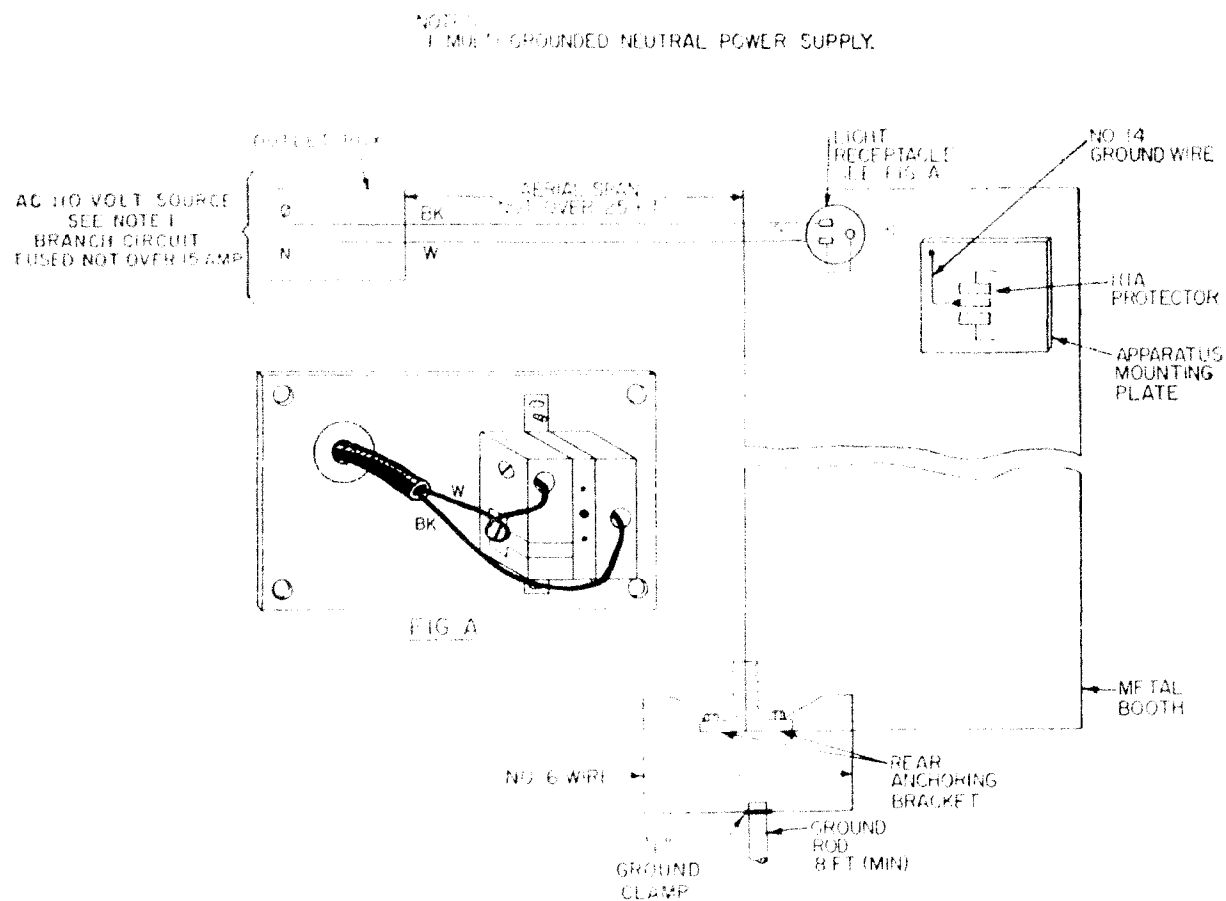

Fig. 6—Metal Booth—Grounding Requirements
6.05 The following illustrations, Figs. 6 through 9, illustrate the essential grounding requirements of the National Electrical Code to be followed in the installation of the KS-14611, List 2 metal booth.